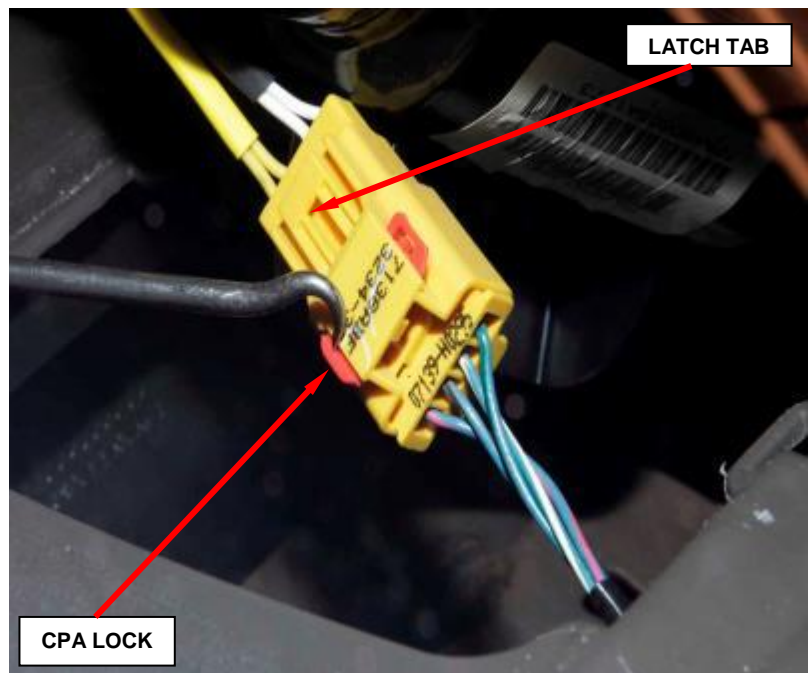

Figure 20 – Airbag Inflator Pigtail Connector
- a. Slide the red Connector Position Assurance (CPA) lock on the connector toward the side of the connector (Figure 20).